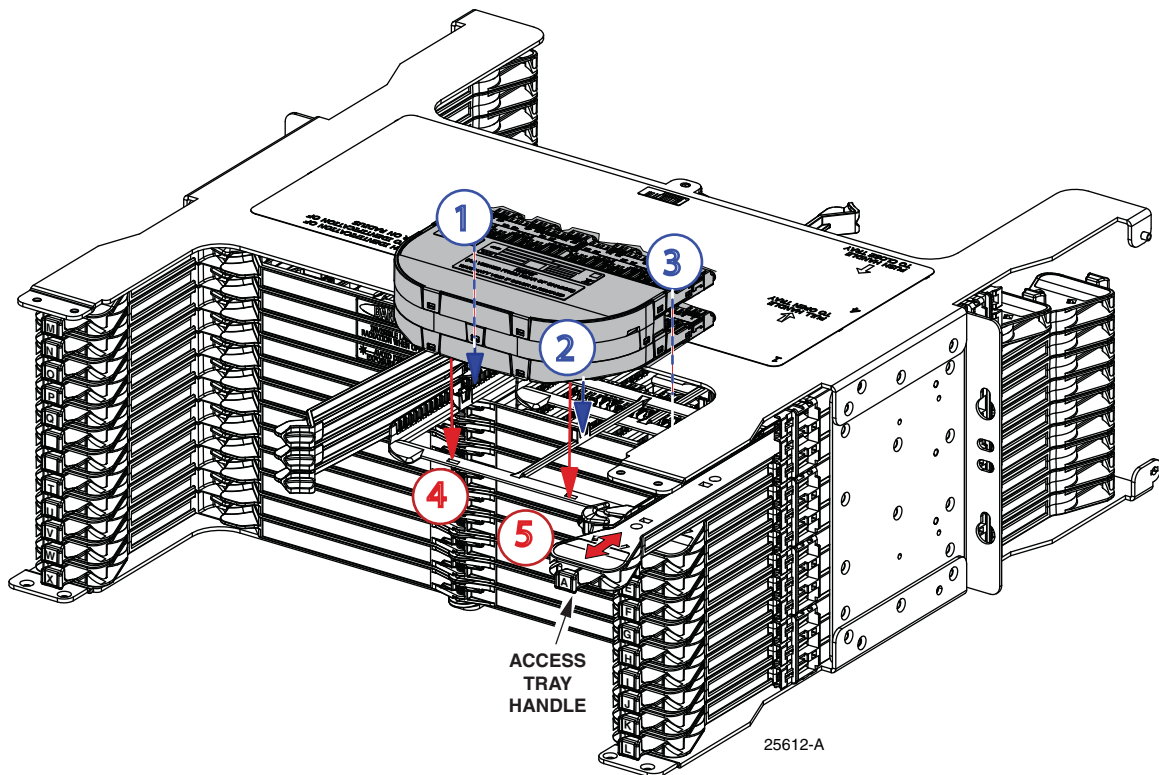

Figure 3. Installing a Double or Triple Height VAM
4. Snap the module down in locations 1, 2, and 3, as shown in Figure 3, then squeeze the module and access tray crossbar at location 4 and 5, as shown, until the module snaps in.